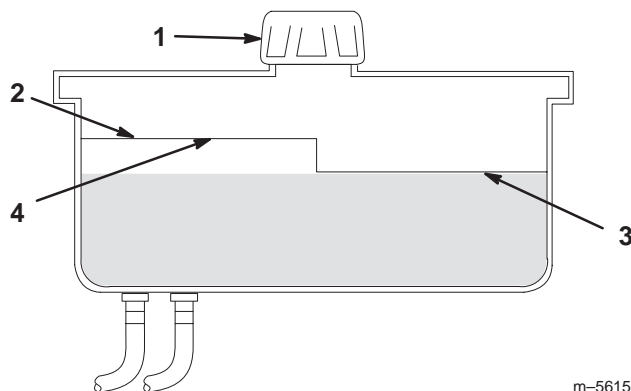

Figure 52
2. Clean area around filler neck of hydraulic tank (Fig. 52).
3. Remove the cap from the filler neck. Look inside to check if there is fluid in the reservoir (Fig. 52).
Note: The fluid level should be to the top of the **hot** level of the baffle, when the fluid is hot (Fig. 52).